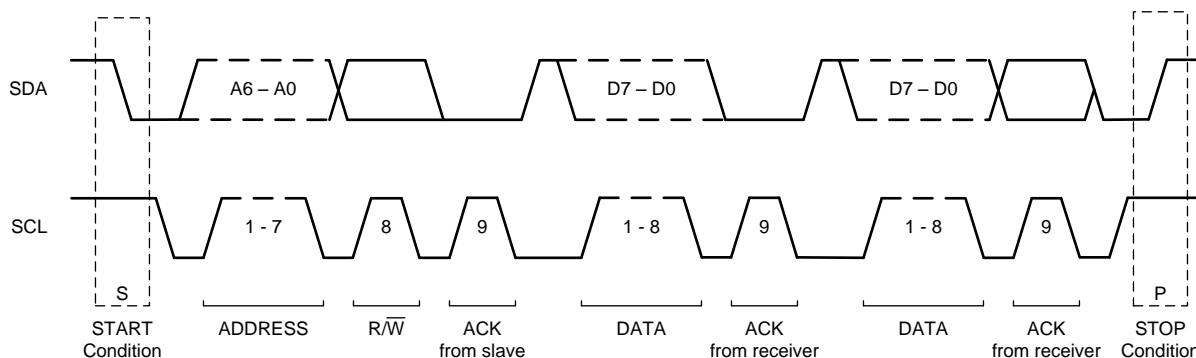

图 34. I2C Data Transfer Format
Figure 34 shows the format of the data transfer. The master initiates all transactions with the ADS1219 by generating a START (S) condition. A high-to-low transition on the SDA line while SCL is high defines a START condition. The bus is considered to be busy after the START condition.